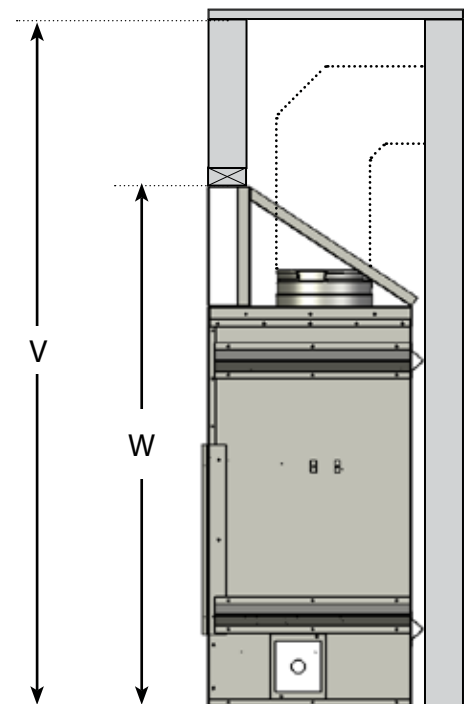

Figure 8 - Minimum Enclosure Height and Distance to Ceiling
Figure 8 shows the relationship between a room ceiling (V) and an enclosure (or chase) ceiling (W).